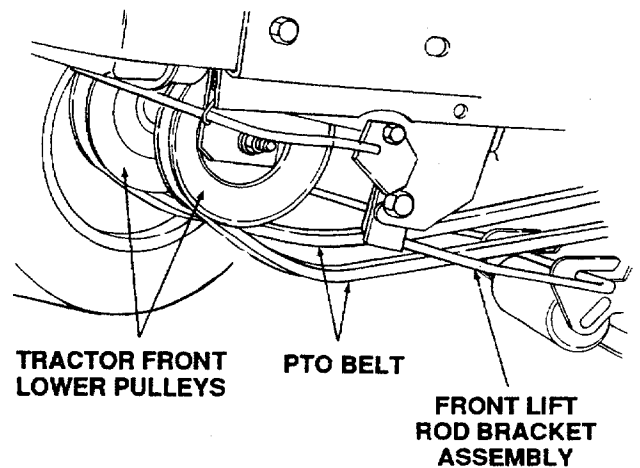

Figure 39
- Pass the PTO belt downward, inside the tractor frame, until the belt is below the two tractor front-lower pulleys. (Refer to Figure 39.)